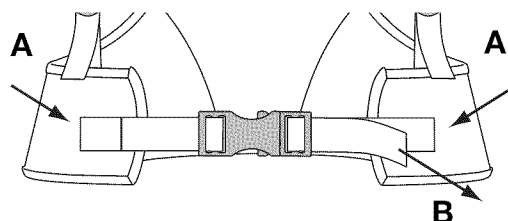

Fig. 15
NOTE: Make sure the weight of the unit is supported on the hips by the waist support (Fig. 15, A).
3. If weight is not on hips, loosen the shoulder supports (Fig. 16, A) and pull the waist support handle (Fig. 15, B) to tighten. Adjust until the unit's weight rests on the hips.